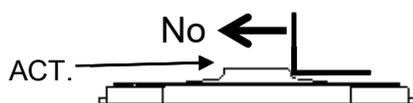

Fig. 11 Load and impact from side direction
- 10.11. Please be careful on designing and handling especially when the switch is being built into the unit, not to add side force (static or impact) to the ACT. as shown below (Fig. 11), because the ACT. might deform or come off.